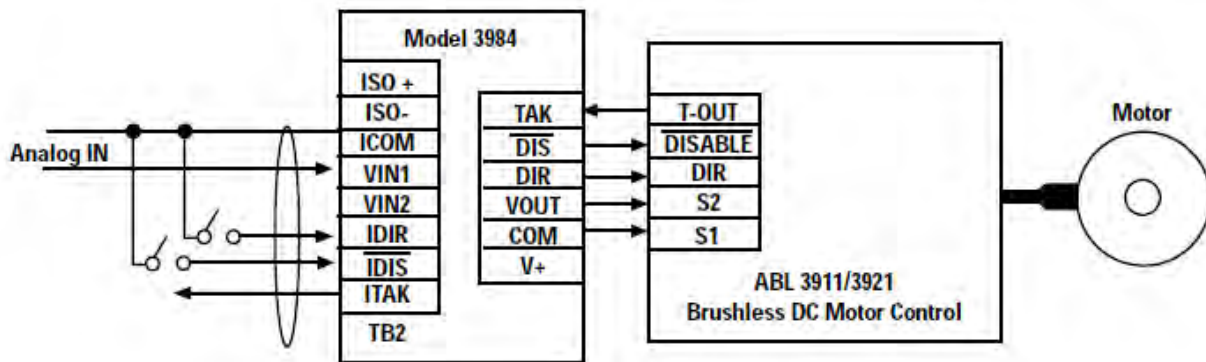

Figure 8 - Connection to Model 3984 Isolation Interface
*Signal Isolation Using the Bodine Model 3984 Interface Module:* Follow the installation instructions provided with the module to isolate the input signals between the control electronics and the ABL Control. See Figure 8 for connections.